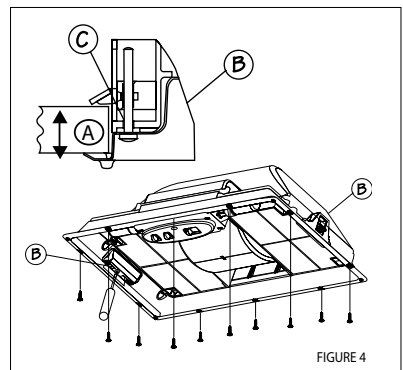

FIGURE 4
4. Fix the rangehood to the cabinet using the two spring loaded brackets, one on each side of the rangehood (B in FIGURE 4). Using a philips screwdriver, tighten the adjustment screw (C in FIGURE 4) until the brackets adhere tightly to the surface. For thicknesses of LESS than 3/4", insert a block of wood to fill in the gap between the cabinet bottom and the spring loaded bracket.
5. **IMPORTANT:** Also fix the rangehood to the cabinet using the 10 screws provided (FIGURE 4).